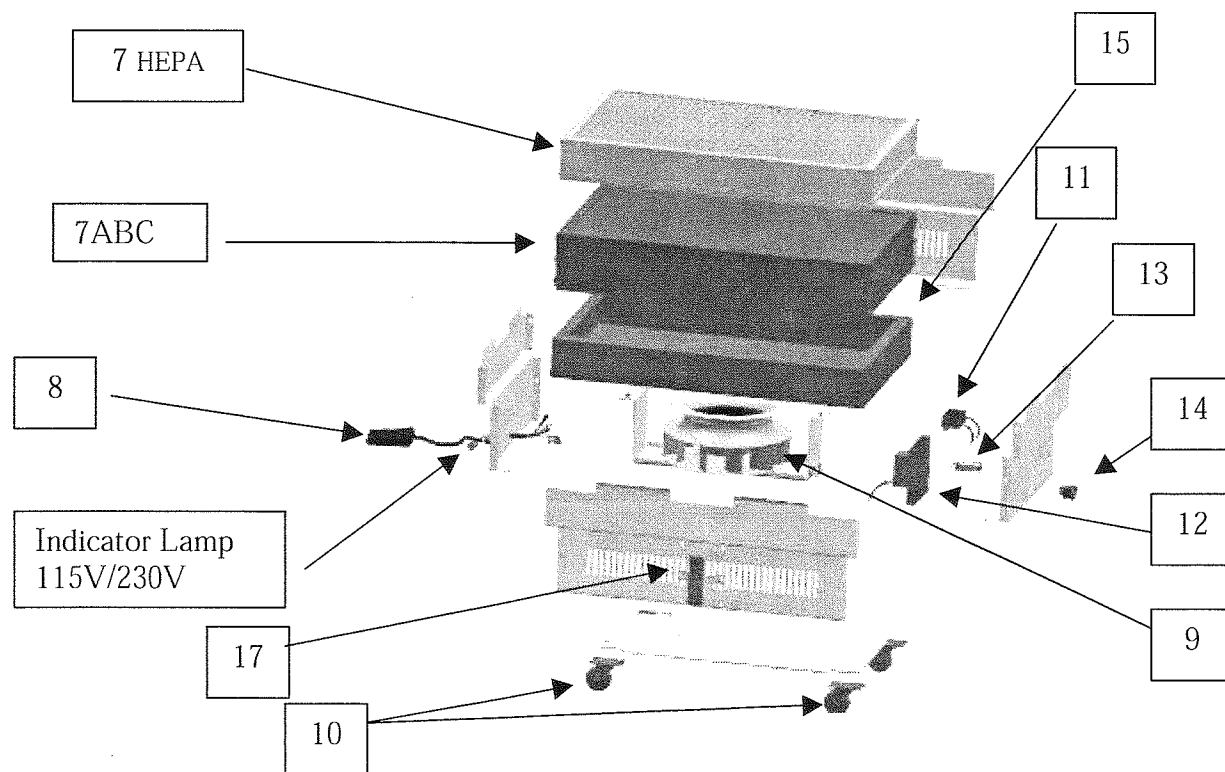

Figure 8
4. Remove 4 screws in the motor bracket that holds the motorized impeller, Item 9, Figure 8 Page 50.
2. Remove the two screws holding the speed control using a Phillips screwdriver. Refer to exploded view of system on Figure 8, Page 50.